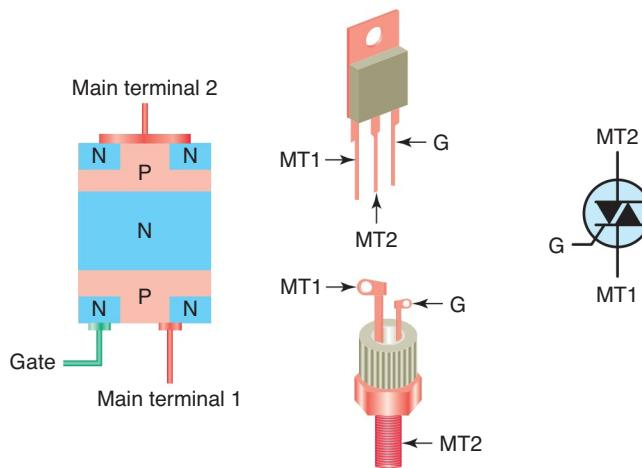

Figure 9-35 Triac.
The **triac** is a three-terminal device essentially equivalent to two SCRs joined in reverse parallel (paralleled but with the polarity reversed) and with their gates connected together. The result is a bidirectional electronic switch that can be used to provide load current during both halves of the AC supply voltage. Triac connections, shown in Figure 9-35, are called main terminal 1 (MT1), main terminal 2 (MT2), and gate (G). The leads are designated this way since the triac acts like two opposing diodes when it is turned on and neither lead always acts like a cathode or an anode. Gate current is used to control current from MT1 to MT2. From terminal MT1 to MT2 the current must pass through an NPnP series of layers or a PNPN series of layers. The gate is connected to the same end as MT1, which is important to remember when you connect the triac control circuit. Terminal MT1 is the reference point for measurement of voltage and current at the gate terminal.